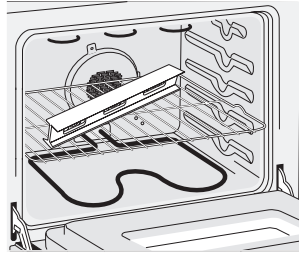

Figure 12
2. Place a level on the rack (see figure 12). Take 2 readings with the level placed diagonally in one direction and then the other. Level the range, if necessary, by adjusting the 4 leg levelers with a wrench.